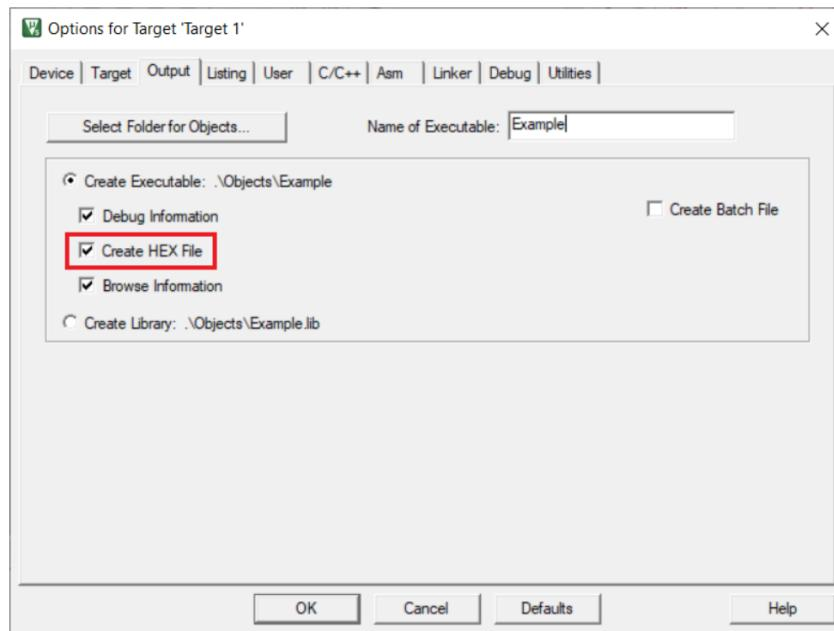

Figure 7
- Under the **Output** tab, select **Create HEX File** (see Figure 7).